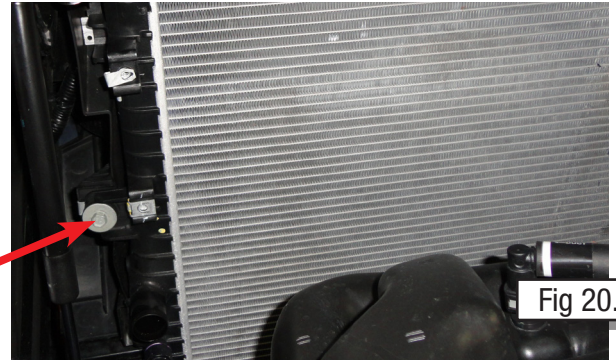

Fig 20.
22. Remove the two 13mm bolts holding the radiator in the vehicle (Fig. 20) .